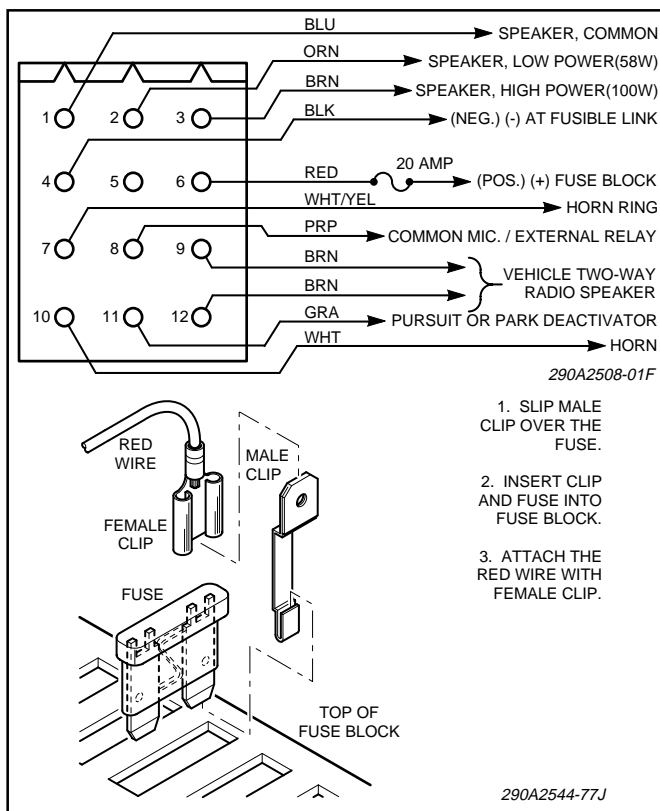

Figure 3-6. Amplifier/Relay Unit Power Cable and Fuse Clip Adapter Installation.
The unit is designed to operate with one 11-ohm impedance speaker or two 11-ohm impedance, low power (58W) or high power (100W), speakers connected in parallel and in phase. On Federal speakers, this can be accomplished by connecting the two speaker leads marked “1” to the SPEAKER COMMON power cable lead and the two speaker leads marked “2” to the SPEAKER HI POWER or SPEAKER LO POWER power cable leads. See figure 3-6.
Using 18 gauge wire, connect the speaker leads (58W speakers to SPEAKER LO POWER and 100W speakers to SPEAKER HI POWER) as shown in Power Cable Wiring Diagram, figure 3-6.
See figure 3-6. To use this feature, connect the power cable’s gray wire to a vehicle circuit that is grounded when the vehicle is shifted into PARK.
- c. See figure 3-6. Connect the other side of the switch to the power cable’s gray wire using #18AWG or larger wire.
#### 8. Connection to Power Source (see figure 3-6).
Route the red (+) power cable lead to the fuse block (see table 3-1) or user-supplied switch. When the red (+) power cable lead is routed to the fuse block, install the supplied fuse clip adapter as follows (see figure 3-6):